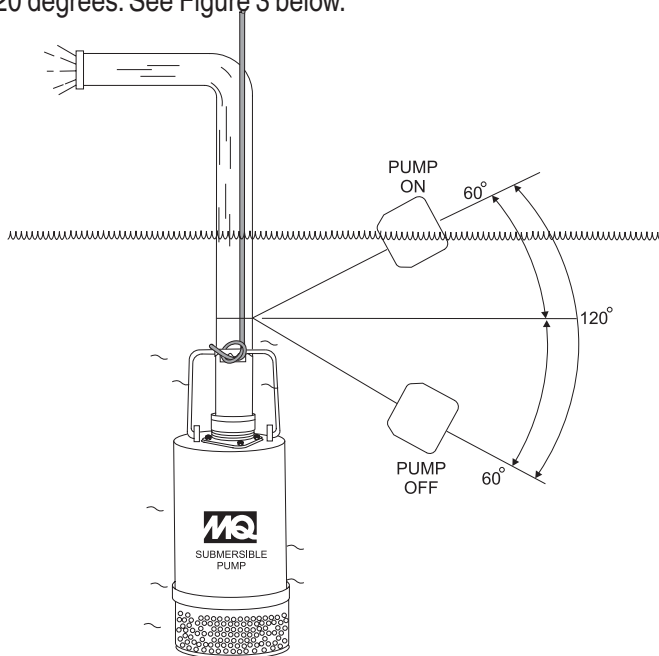
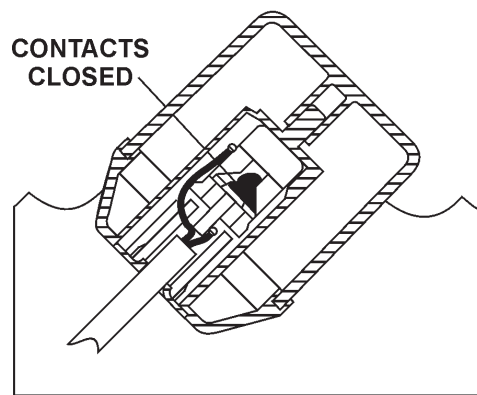
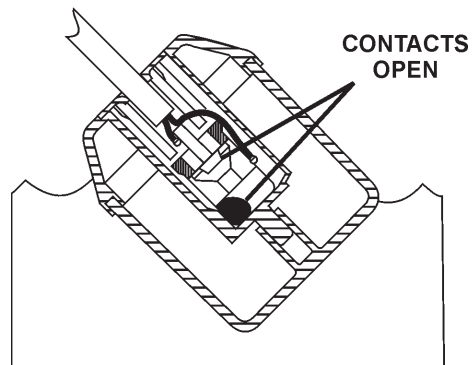

Figure 3. Pumping Range (Float Switch)
Figure 4. Float Switch (Closed)
Figure 5. Float Switch (Open)
There is a tilt-sensitive mercury switch hermetically sealed within each float. As the liquid level (water) rises or falls, the float changes its angle until the mercury switch makes (close, Figure 4) or breaks (open Figure 5) the circuit. Maximum pumping range is 120 degrees. See Figure 3 below.
3. Secure the clamp to the discharge hose as shown in Figure 5. **DO NOT** install cord under hose clamp.
3. Determine the length of the float switch wires, then secure float switch wires to pump discharge hose. See Figures 3 and 6 and Table 3 to determine the pumping range.